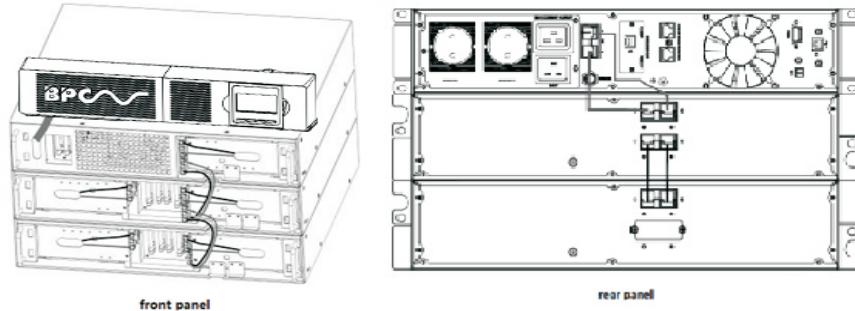

Figure3 Typical BC Installation
3. Plug the BC cable(s) into the battery connector(s) as shown in Figure 3.